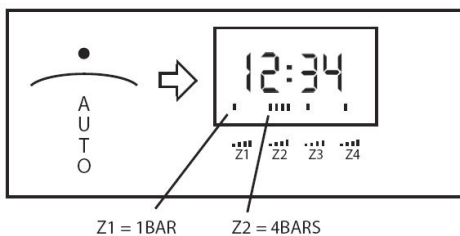

Fig.10
2. Change the status of zone 1 by pressing the '+' and '-' buttons. Zone 1 will change between 1 and 4 bars (see Fig.10 and Table 5)